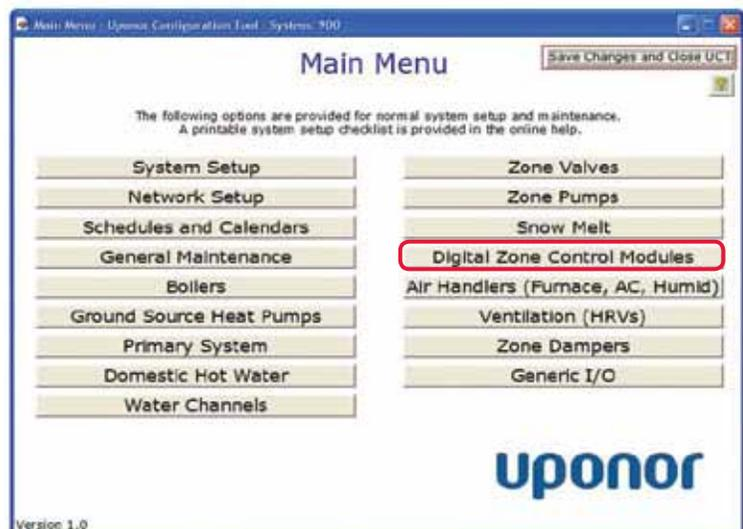
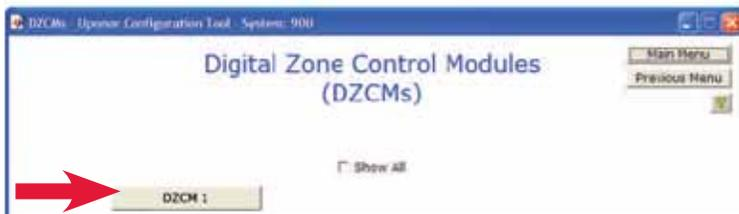

Figure 3.1-1: Main Menu Screen
Figure 3.1-2: DZCM Availability Screen
1. From the **Main Menu**, click on the **Digital Zone Control Modules** button shown in **Figure 3.1-1** to display the Digital Zone Control Modules (DZCMs) screen shown in **Figure 3.1-2**. This screen shows the number of DZCMs online that are communicating with the Router Main Control (RTR) (A9011000).
The example in **Figure 3.1-2** shows that DZCM 1 is online and communicating. If the Network System detects other DZCMs, additional DZCM buttons, or tiles, will display.